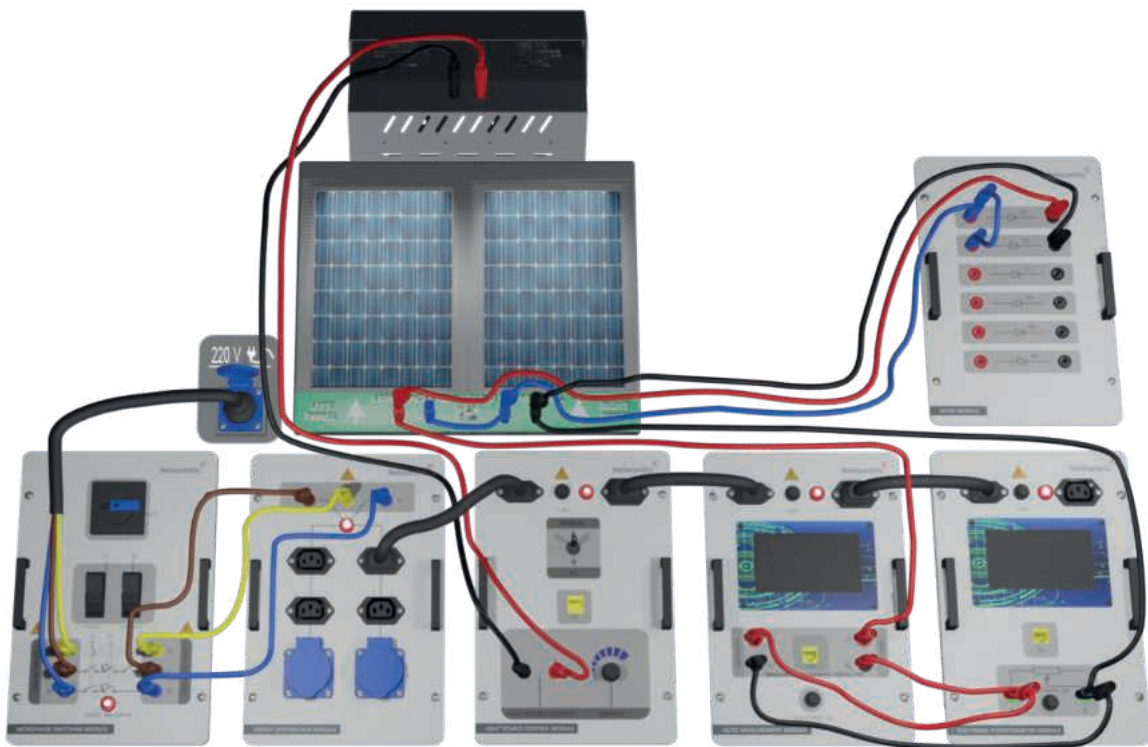

Figure-49. Installation Image of Examination of Effect of Bypass Diode in Photovoltaic Panels
1. Set up the connection as specified in Figure-49. Ensure a constant level of light in the laboratory by creating an average scenario. Any alterations to the positions of the lamps or curtains will have an impact on the experimental outcomes.